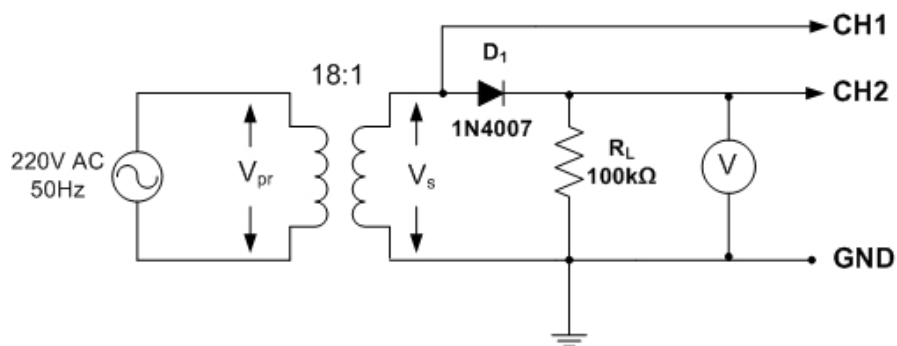

Figure 8: The Practical Half-Wave Rectifier Circuit
1. Connect the half-wave rectifier circuit shown in Fig.8. Measure the DC output voltage, peak value of the secondary winding voltage, and the peak value of the output voltage as tabulated in Table 1. Sketch the output waveform.